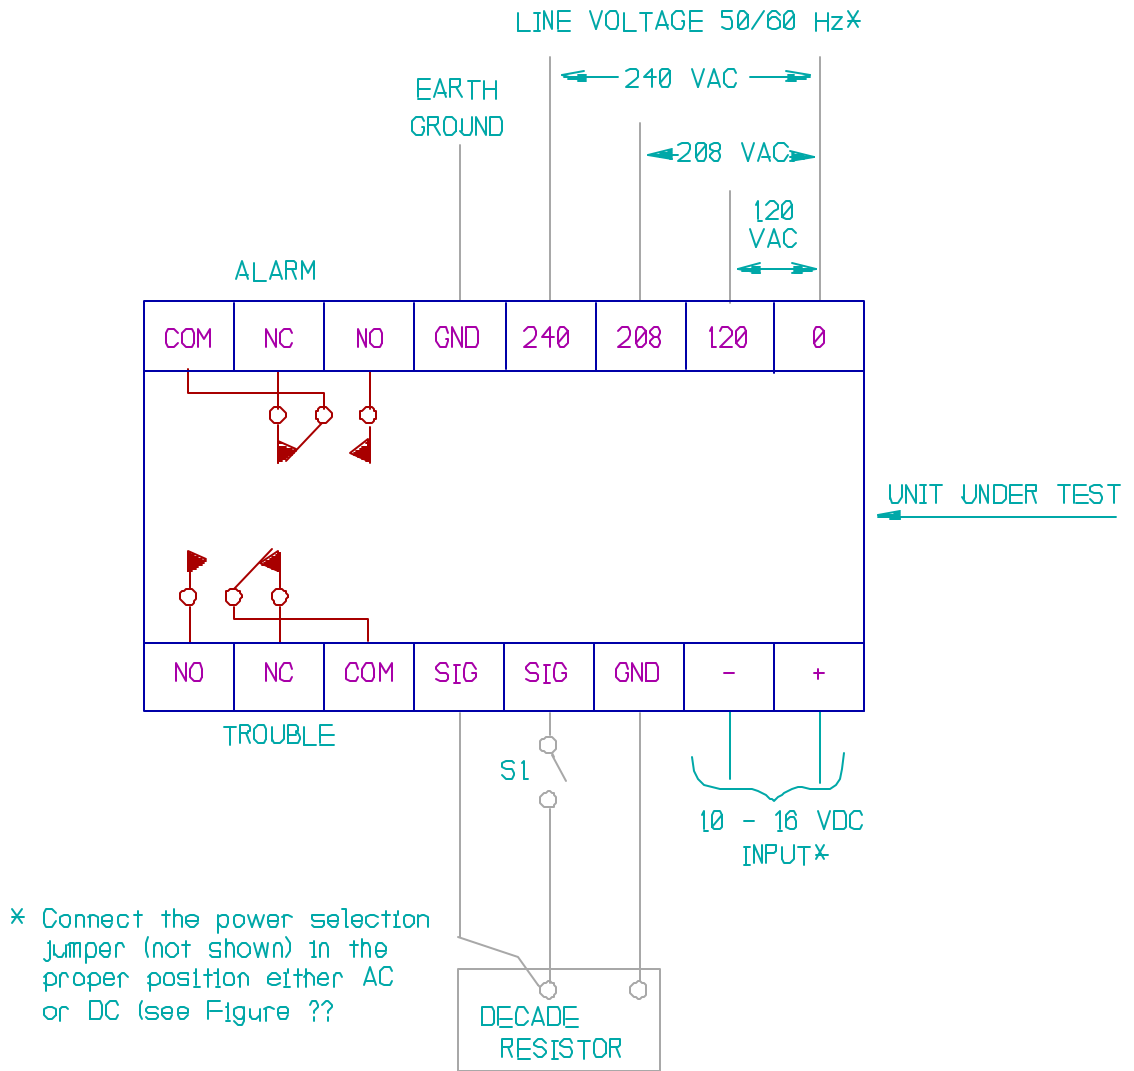
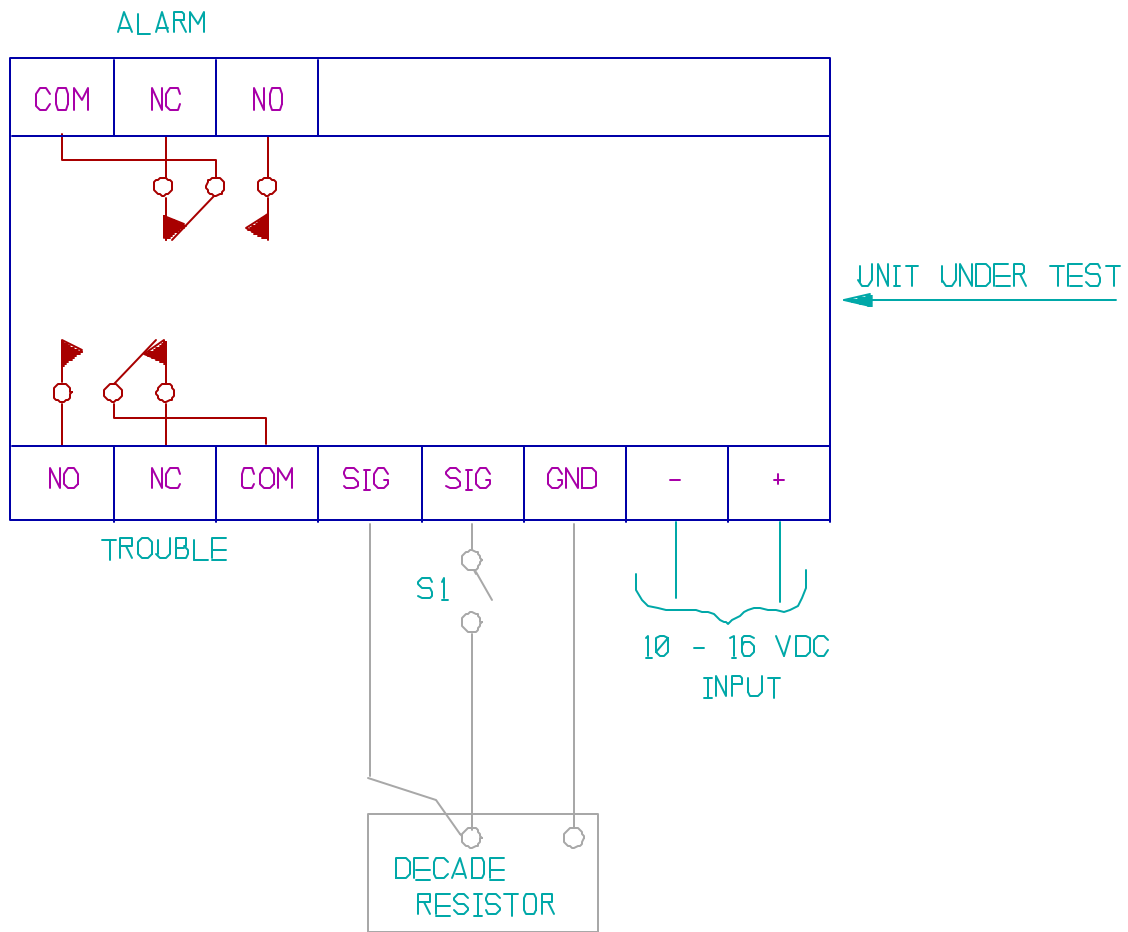

Figure 17. Terminal Block Connections for Control Unit Check, P/N 35003-38.
Figure 18. Terminal Block Connections for Control Unit Check, P/N 35003-39.
- (1) Connect the control unit as in Figure 17, page 33, or Figure 18, page 34.
- (2) Close S1. Set the decade box to 300 ohms.
- (3) Apply power to the control unit.
- (4) The unit should be in the normal operating mode with both alarm and trouble relays de-energized as shown in Figures 17 and 18.